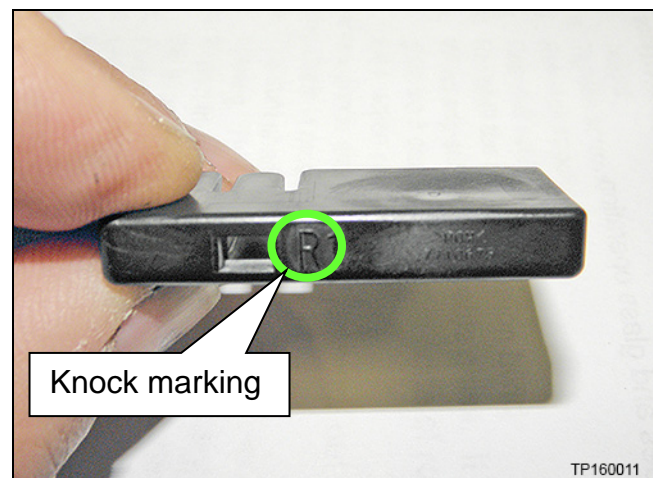

Figure 39
NOTE: Knocks are marked left (L) and right (R). Figure 39 shows a knock for the passenger side and is marked "R".